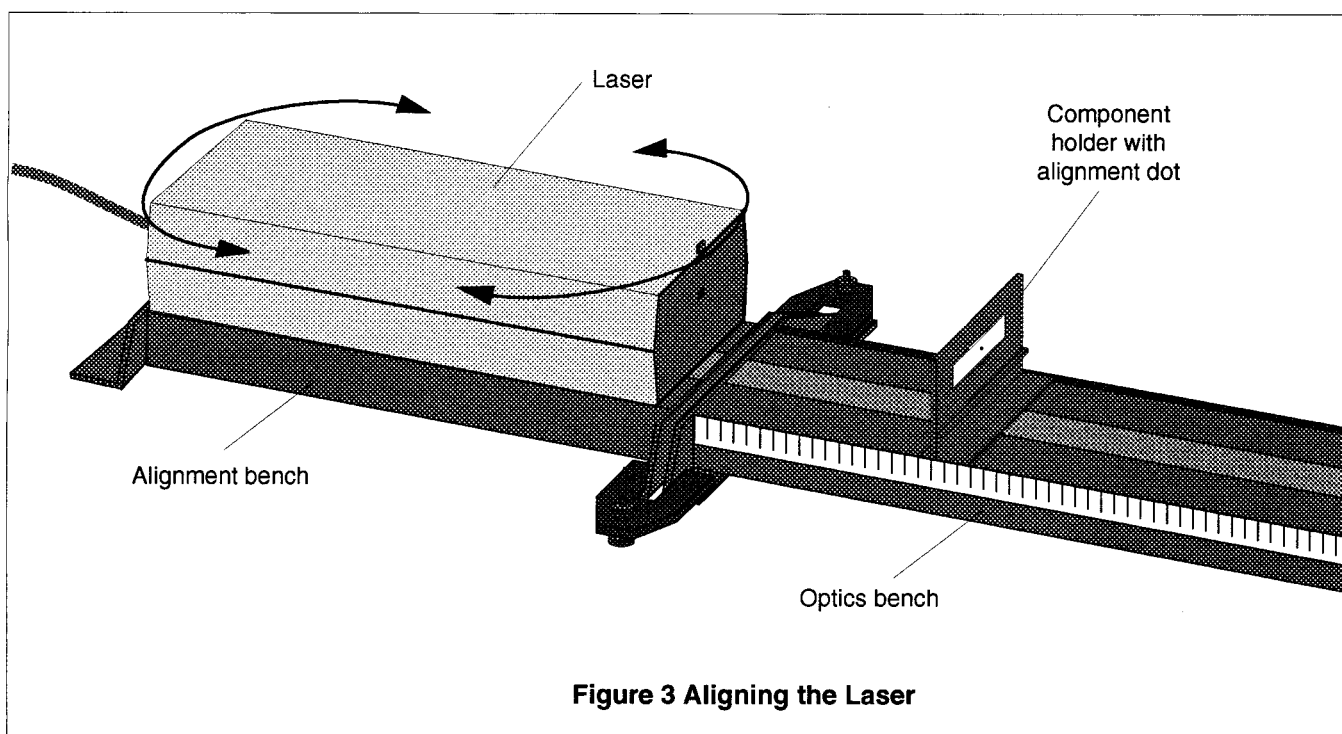

Figure 3 Aligning the Laser
- Place the laser on the alignment bench, as in Figure 3. Center the laser on the bench, and make sure it is reasonably parallel with the bench.